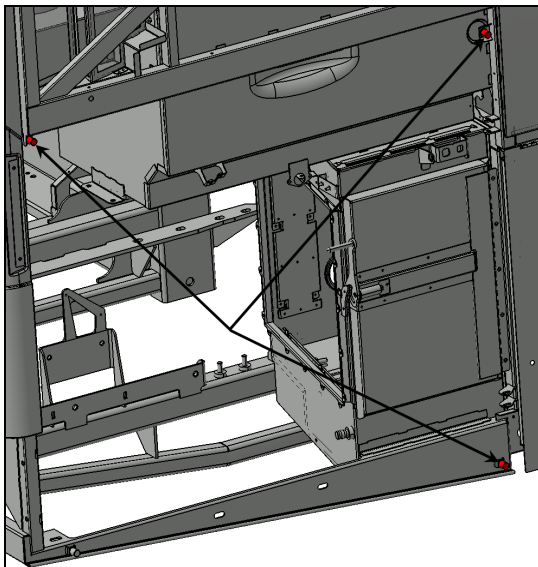
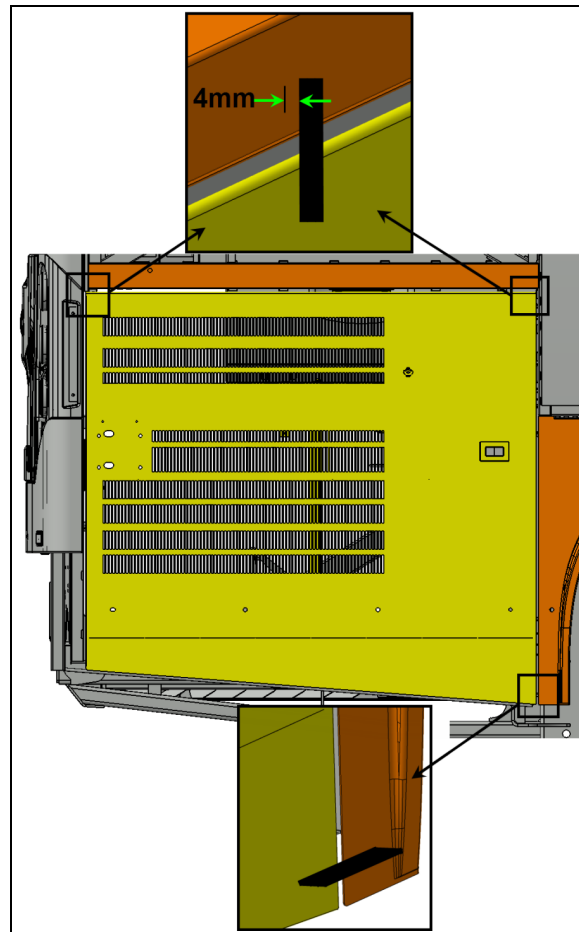

FIGURE 71
FIGURE 72
19. Screw in or out the two upper stoppers so that the upper part of the door exceeds the horizontal member by $5/32$ " to $3/16$ " (4mm to 5mm) (see FIGURE 71 & FIGURE 72).